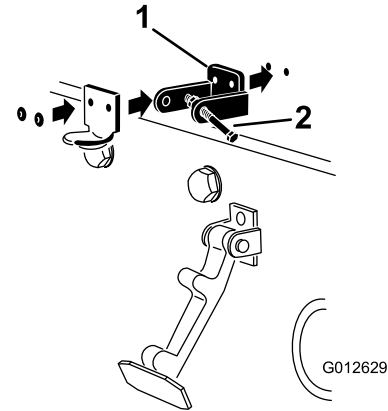

Figure 31
3. While aligning the mounting holes, position the CE lock bracket and the hood-latch bracket onto the hood. The lock bracket must be against the hood (Figure 31). Do not remove the bolt and nut assembly from the lock bracket arm.
5. Rivet the brackets and the washers to the hood (Figure 31).